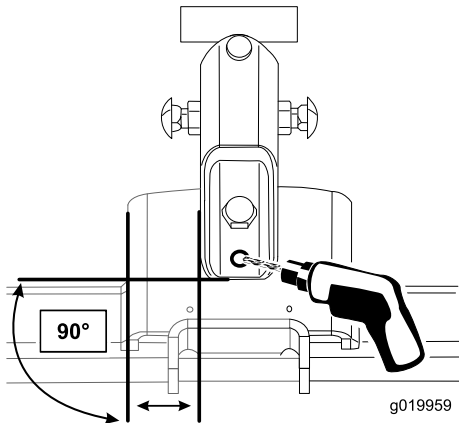

Figure 6
4. Drill through the second hole on the pivot bracket assembly into the machine plate (Figure 6).